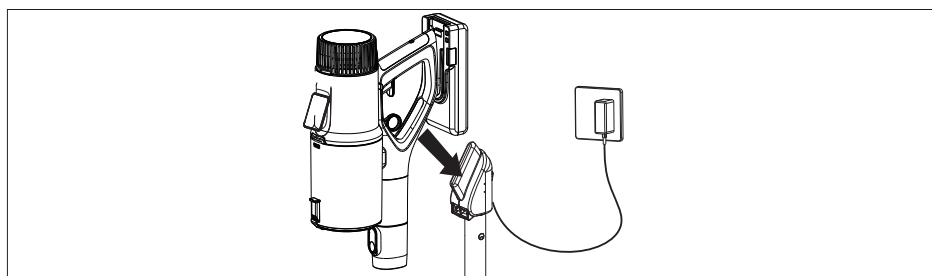

Fig. 7 – Charging on the stand
Crevice nozzle (7) (see Fig. 7)	• Vacuuming corners and places the floor nozzle cannot reach, window frames, folds in fabric etc.
2-in-1 nozzle (8) (see Fig. 7)	• Brush: Vacuuming sensitive objects such as books, picture frames or upholstery, curtains, grilles • Nozzle only: Beds, sofa, upholstery